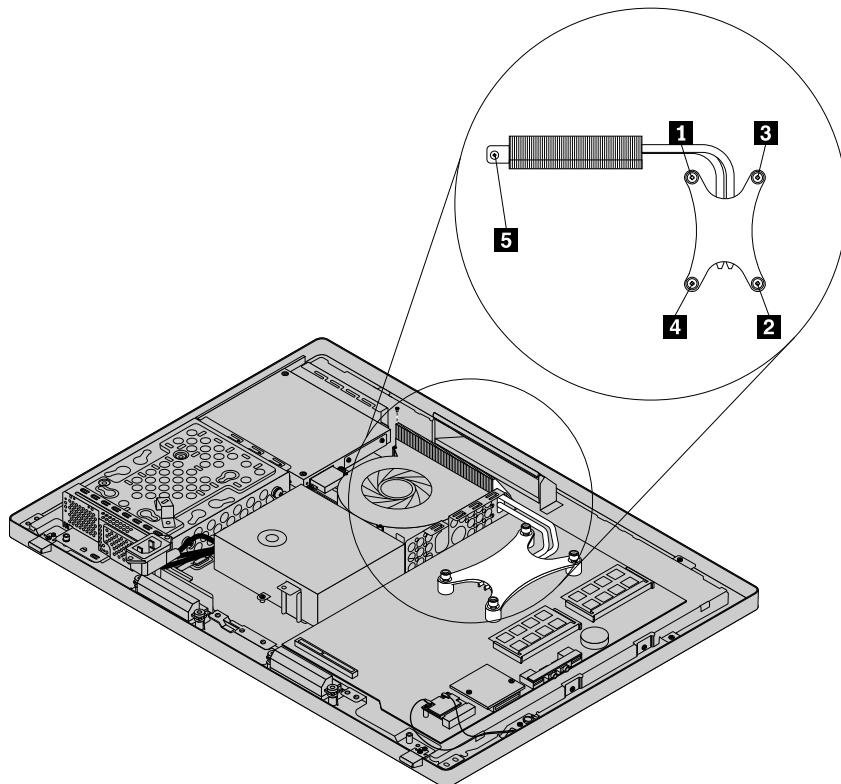

Figure 27. Loosing the four screws that secure the heat sink assembly to the system board
- Follow the sequence **1**, **2**, **3**, **4** on the heat sink assembly to tighten the four screws to secure the heat sink assembly to the system board, as shown in Figure 27 “Loosing the four screws that secure the heat sink assembly to the system board” on page 91. Install the screw **5** to secure the heat sink assembly to the computer.